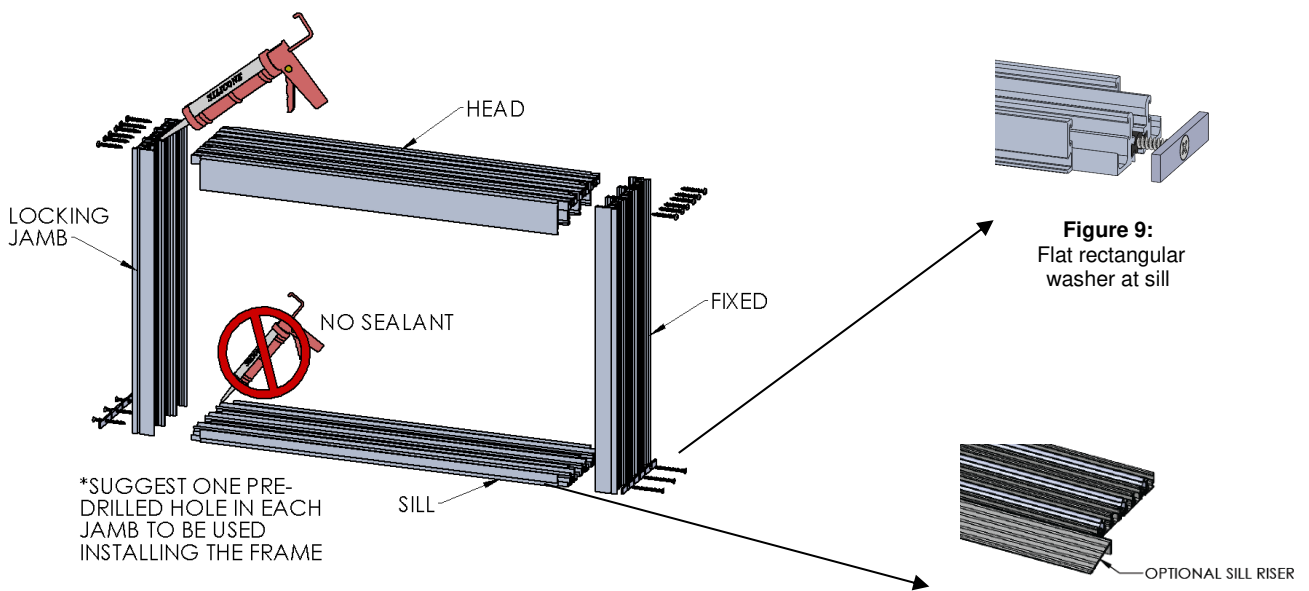

Figure 7:
2. Add sealant to the upper corners of the jamb(s) and to the end of the head that is compatible to the entire assembly as shown in Figure 7.